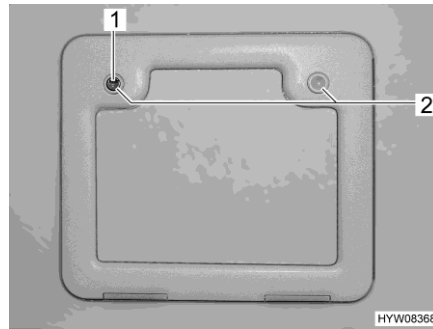

Fig. 112 Flap (sewage tank)
- Open the flap for the sewage tank on the outside of the vehicle. Insert the key into the locking cylinder of the push-button lock (Fig. 112,1) and turn a quarter turn in a clockwise direction.
- Press both push-button locks (Fig. 112,2) simultaneously with your thumb and open the flap for the sewage tank.